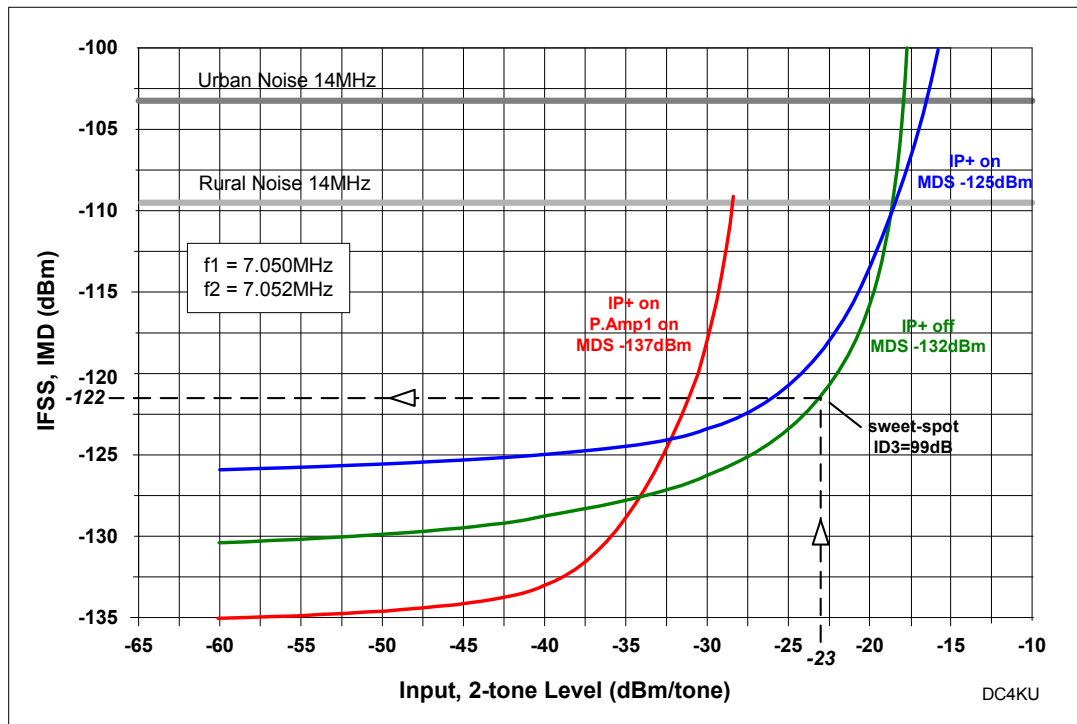

Figure 7: IFSS curves for different settings, IP + on / off and preamplifier on / off
Figure 7 shows the IFSS curves of the IC-7300, with IP+ on/off and with preamplifier activated. The results are quite good and comparable with other high quality receivers.
All traces are far below the Rural- and Urban Noise lines (3). With an antenna connected the distortion products are always below the receiver noise floor and only appear at an input level > -17dBm (S9 +56 dB). If the preamplifier (P.AMP 1) is switched on (red curve), the dynamic range is reduced by the amount of preamp gain. A 3rd-order intercept point (IP3) cannot be determined (calculated) from the curves in Fig. 7, as IP3 does not exist in a direct-sampling SDR.